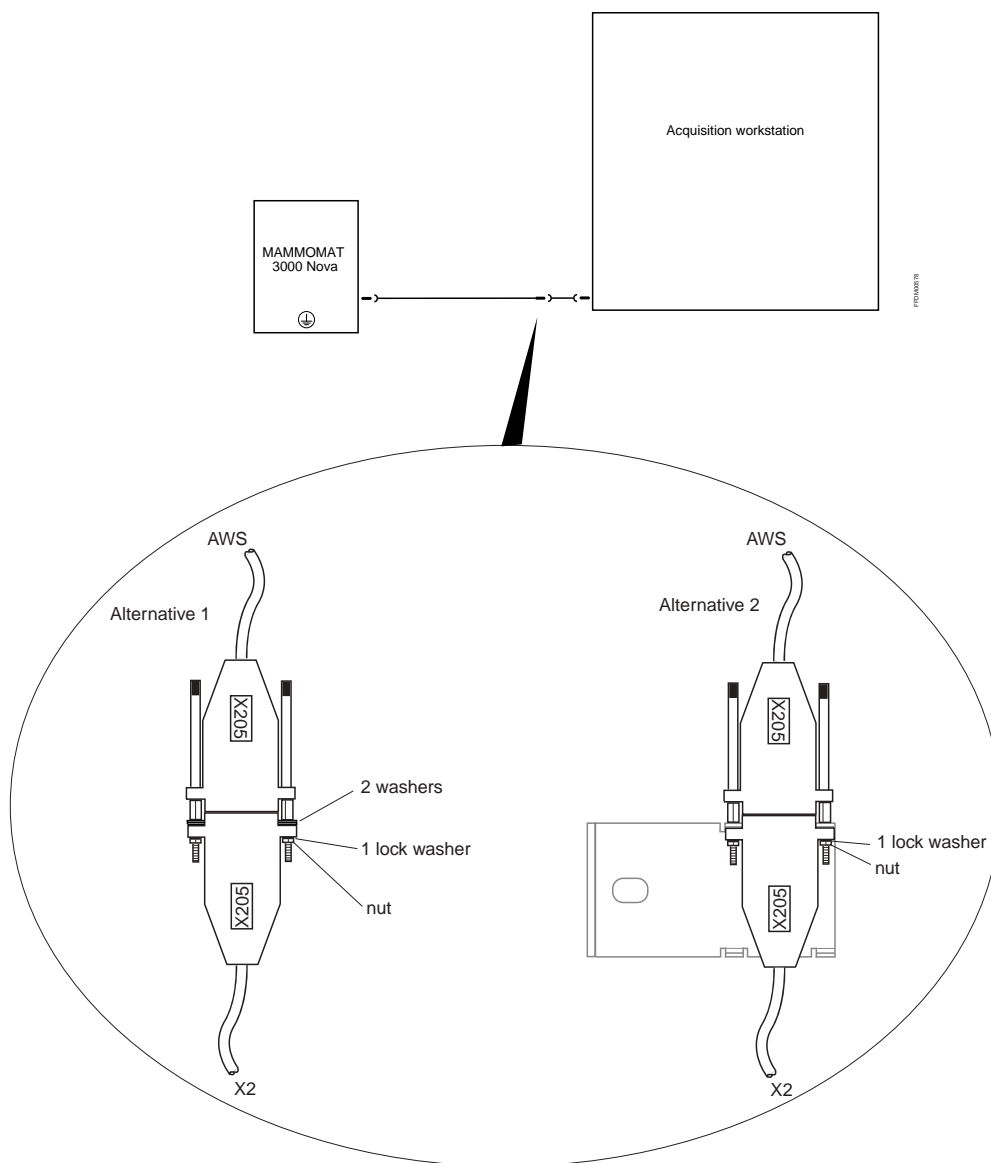

Fig. 4
- The connectors marked X205 can be fasten to the other side of the cable outlet cover or not, see alternatives in Fig. 4.